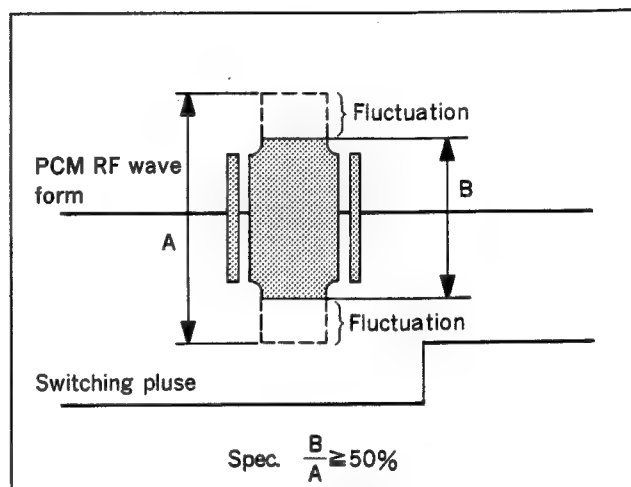

Fig. 6-9-5 Confirmation of PCM RF wave form
15. Confirm the CH1 wave form (PCM RF) of the oscilloscope. The RF level between 5 sec. thru. 10 sec. portion of the tape is more than 50% against the level between 0 sec. thru. 5 sec. portion of the tape. (See Fig. 6-9-5.)
17. Perform step 11 thru. step 15, and confirm the specification of the PCM wave form at the video inserted portion is met (specification is the same as Fig. 6-9-5).
- 18-1. Turn RV701 to 1/3 of the scale to clockwise direction. Perform step 10 thru. step 15, and confirm the specification is met (See Fig. 6-9-5).
Perform step 10 thru. step 15, and confirm the specification is met (see Fig. 6-9-5).
18-3. After the specification for MP tape is met, perform steps 16 and 17 using ME tape, and confirm the specifications is met (See Fig. 6-9-5).
18-4. Turn RV701 to 1/3 of the scale to counterclockwise direction. Perform steps 16 and 17, and confirm the specification is met (See Fig. 6-9-5).
Perform steps 16 and 17, and confirm the specification is met (See Fig. 6-9-5).
18-6. After the specification for ME tape is met, perform step 10 thru. step 15 using MP tape, and confirm the specification is met (See Fig. 6-9-5).
Confirm both specifications for ME and MP tapes are met (See Fig. 6-9-5).